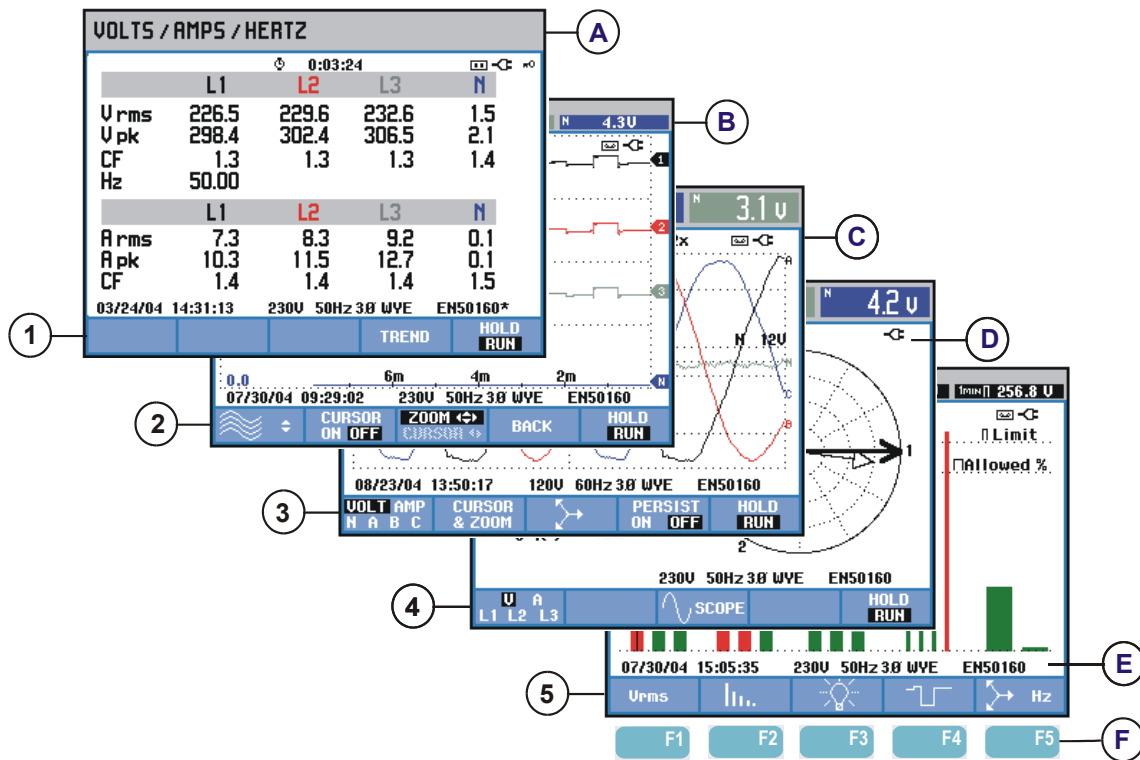

Figure 5-1. Survey of Display Types
Below you will find a brief description of each screen type and its purpose. The measuring mode it is used for is given as well as the manual chapter with detailed information. Bear in mind that the amount of screen information depends on the number of phases and the wiring configuration. Refer to Figure 5-1, item 1 ... 5.
- ① Table screen: gives an instantaneous overview of a big number of important numerical measuring values. Used for: Volts/Amps/Hertz (Chapter 8), Dips & Swells (Chapter 9), Harmonics (Chapter 10), Power & Energy (Chapter 11), Flicker (Chapter 12), Unbalance (Chapter 13), and Power Quality Monitoring (Chapter 16).
- ② Trend screen: this type of screen is related to a table screen. Trend shows the course over time of measuring values from the table. After selection of a measuring mode, the Analyzer starts recording all readings in the table. Used for: Volts/Amps/Hertz (Chapter 8), Dips & Swells (Chapter 9), Power & Energy (Chapter 11), Flicker (Chapter 12), and Inrush Currents (Chapter 15).
- ③ Waveform screen: shows voltage and current waveforms as displayed on an oscilloscope. Channel A (L1) is reference channel and 2 complete cycles starting at 0 volt are displayed. The nominal voltage and frequency determine the measuring grid size. Used for: Scope Waveform (Chapter 7) and Transients (Chapter 14).
- ④ Phasor screen: shows the phase relation between voltages and currents in a vector diagram. The vector of reference channel A (L1) points to the positive horizontal direction. The A (L1) amplitude is also reference for the measuring grid size. Used for: Scope Phasor (Chapter 7) and Unbalance (Chapter 13).
- ⑤ Bar Graph screen: shows the density of each measuring parameter as a percentage by means of a Bar Graph. Used for: Harmonics (Chapter 10) and Power Quality Monitor (Chapter 16).
Refer to Figure 5-1, item A ... F.